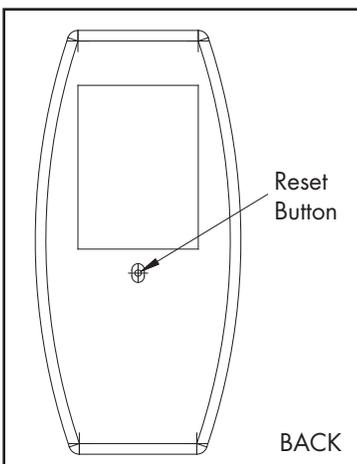

Figure 4.3 - Standard Remote
- While the light is flashing, press the reset button (Figure 4.3, 4.4).